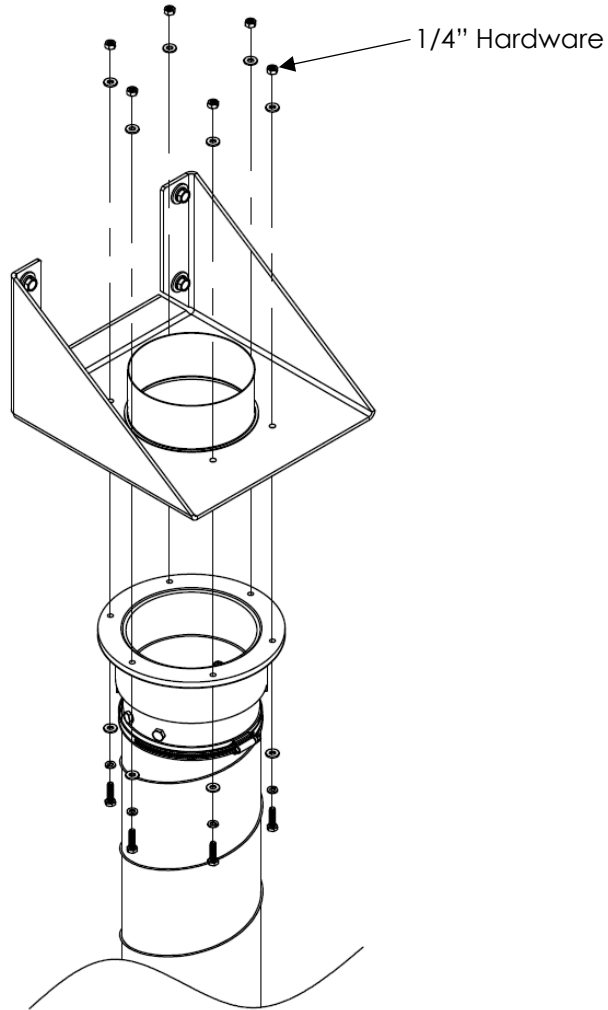

FIG. 3
4. Attach the arm assembly to the gusset assembly as shown in **FIG. 3**. It is recommended that two (2) people perform this step; one to support the arm assembly, while the other attaches hardware to clamp the arm assembly onto the gusset assembly.